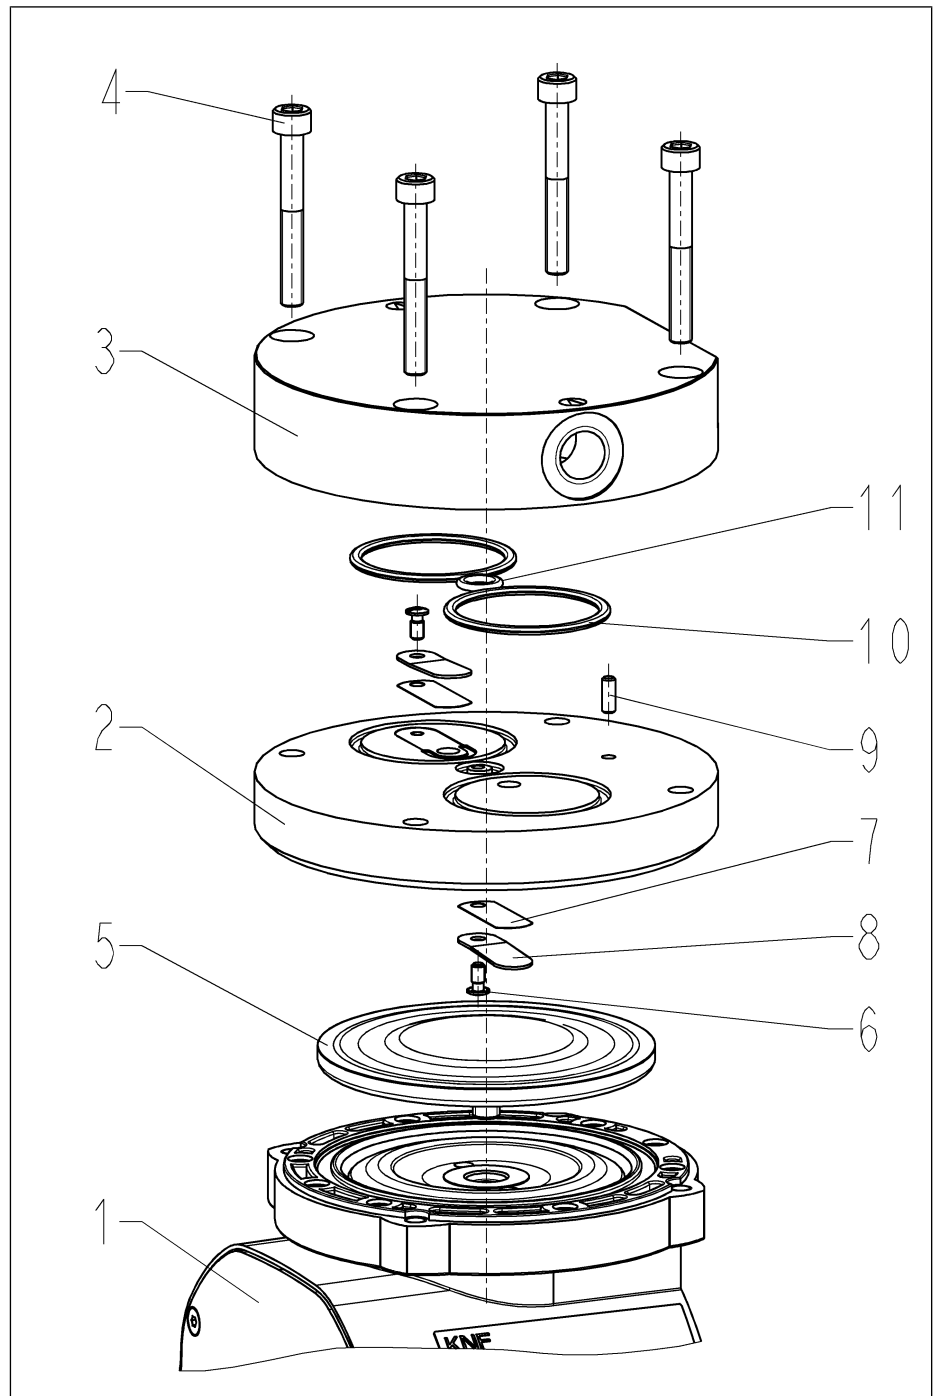

Fig.11 N922STE EX pump parts
**According to Fig. 11
i The item numbers within the following work instruction refer to Fig. 11.